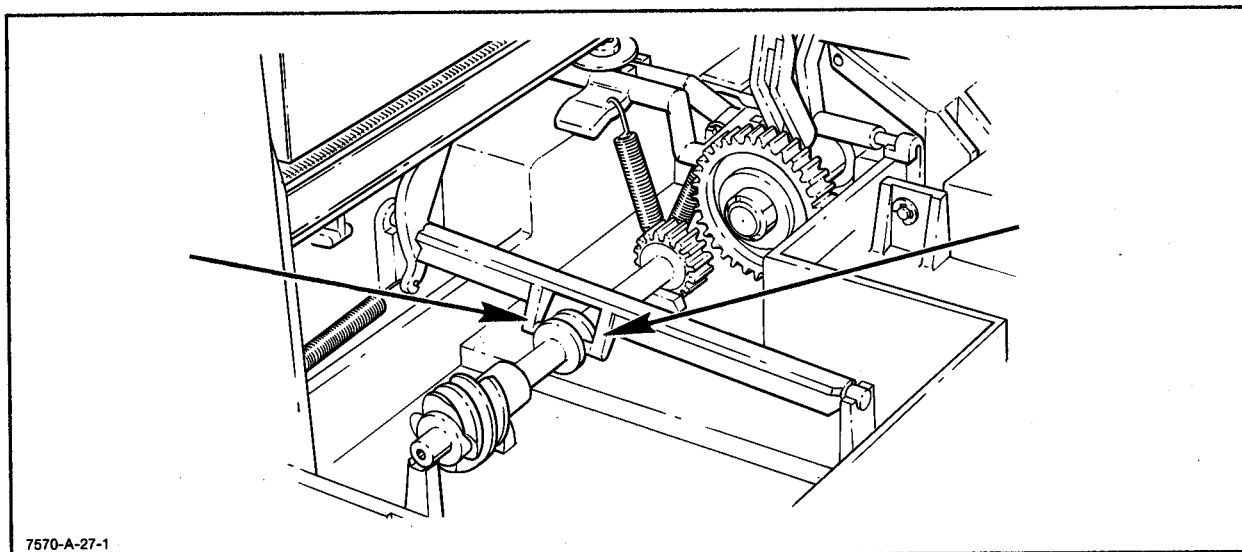

Figure 6-23. Engaging Lever Installation
- b. Install the engaging lever, assuring that the actuating arms are properly engaged in the slot on the worm gear shaft. See Figure 6-23.